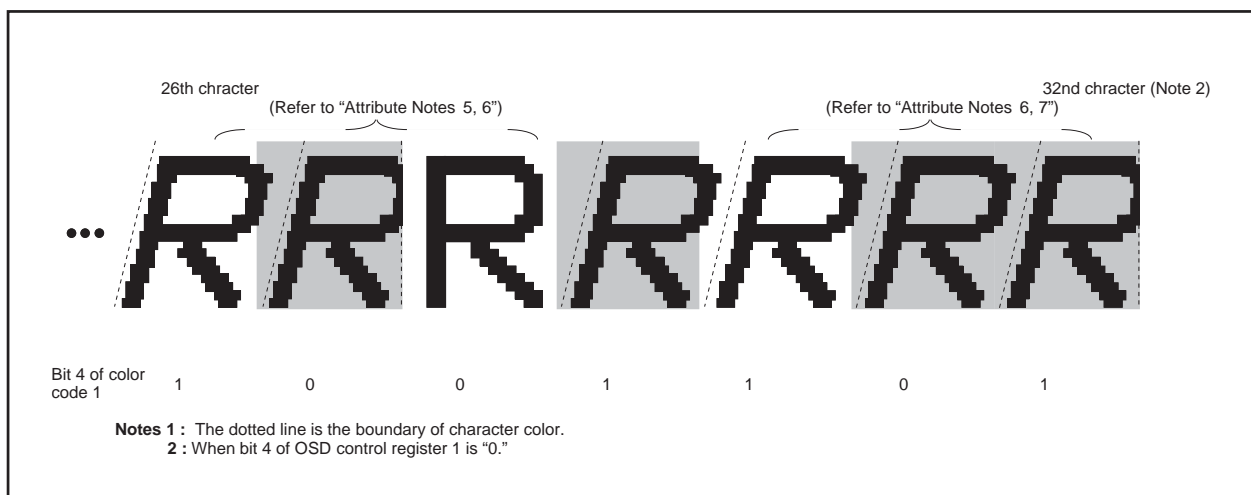

Figure 16.32 Example of italic display
- 4: When the pre-divide ratio = 1, the italic character with slant of 1 dot \times 5 steps is displayed ; when the pre-divide ratio = 2, the italic character with slant of 1/2 dot \times 10 steps is displayed (refer to Figure 16.32 (c), (d)).
- 5: The boundary of character color is displayed in italic. However, the boundary of character background color is not affected by the italic (refer to Figure 16.32).
- 6: The adjacent character (one side or both side) to an italic character is displayed in italic even when the character is not specified to display in italic (refer to Figure 16.32).
- 7: When displaying the 32nd character (in 32-character mode)/42nd character (in 42-character mode) in the italic and when solid space is off (OC14 = "0"), parts out of character area is not displayed (refer to Figure 16.32).